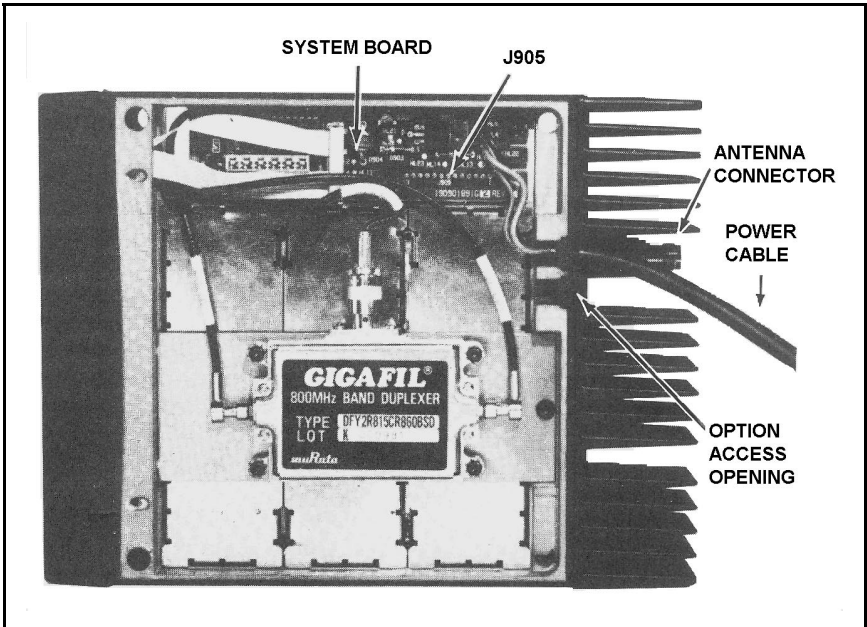

Figure 10 - Bottom View (Cover Removed)
3. Plug the option cable into J905 on the System Board and push the strain relief on the cable into the slotted option access opening. Refer to Figure 10.